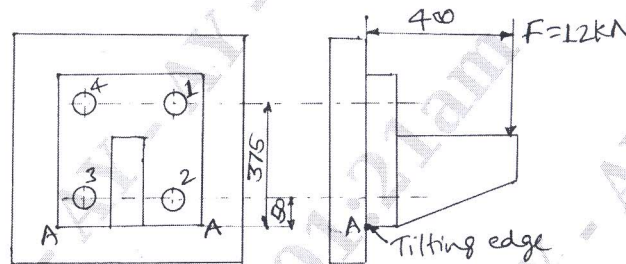

Fig.Q9(a)
- 9 a. Brackets are fixed on a steel column as shown in the Fig.Q9(a) for supporting a travelling crane in a workshop. The maximum load that comes on the bracket is 12 kN, acting vertically at a distance of 400 mm from the face of the column. The vertical face of the bracket is secured to the column by four bolts in two rows (two in each row) at a distance of 50 mm from the lower edge of the bracket. Determine the size of the bolts if the permissible value of the tensile stress for the bolt material is 84 N/mm^2 . Also find the cross section of the arm of the bracket which is rectangular. Assume depth of the arm of the bracket $b = 250 \text{ mm}$.